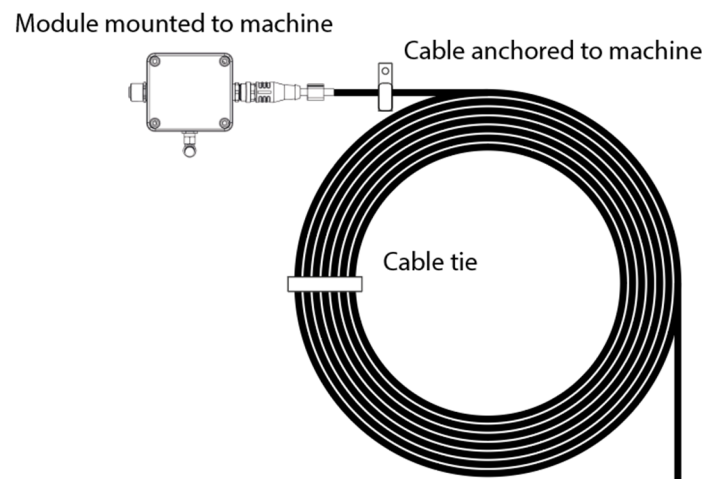

Figure 18.- Cable securing process
- Secure the cable to the machine 120-150 mm away from the mounting location using an appropriately sized cable clamp. Do not coil the cable with a bending radius of less than 100 mm (Figure 18).